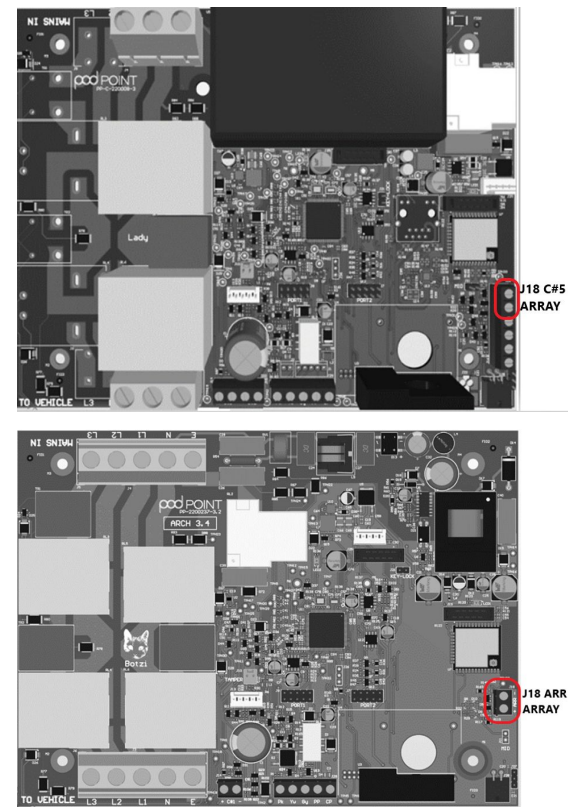

Fig 5. PCBA Variant Examples
- The choice of entry point used will determine the amount of insulation/SWA that needs to be removed for the internal wiring connection of the unit. Fig. 5 illustrates the connection terminals for the supply cables.